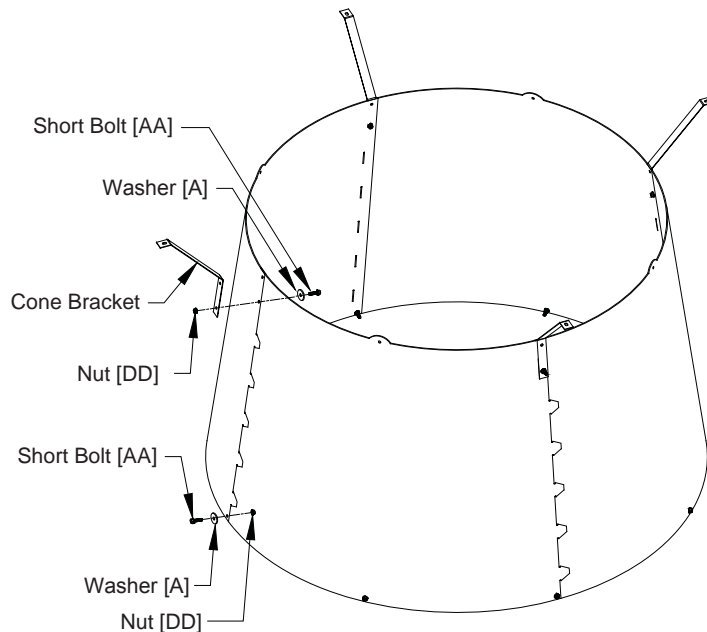

Figure 14B
Stand the cone sections on end and curl ends around to form cone with the Cone Support Bracket on the outside and the tabs on the inside. Then insert the remaining tabs into slots so the tabs are inside the cone and fasten final joint using (1) Short Bolt [AA], Washer [A] and Nut [DD], with the nut on the inside of the cone. At the inner pair of holes attach (1) Cone Bracket to the inner hole using (1) Short Bolt [AA], Washer [A] and Nut [DD] with the bolt head on the outside of the cone. See Figure 14B.